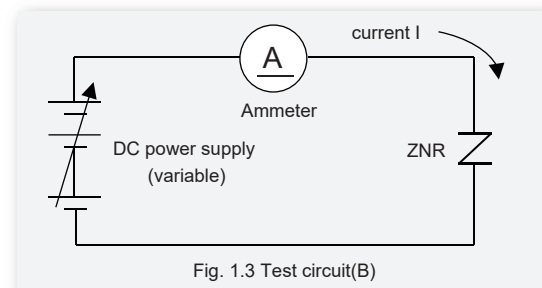

Fig. 1.3 Test circuit (B)
Now take a look at test circuit (B) shown in Fig. 1.3, where the resistor R is replaced with a ZNR (varistor). When voltage E is increased gradually from 0 V and the resulting current flow is plotted on a graph, the current I appearing on the graph is completely different from the straight line that is plotted with the circuit using an ordinary resistor. (see Fig. 1.4)
- ① When voltage E is increased gradually from 0 V, little current I flows until voltage E reaches a given voltage value.
- ② However, at the point voltage E exceeds the given voltage value, the current I starts increasing exponentially.